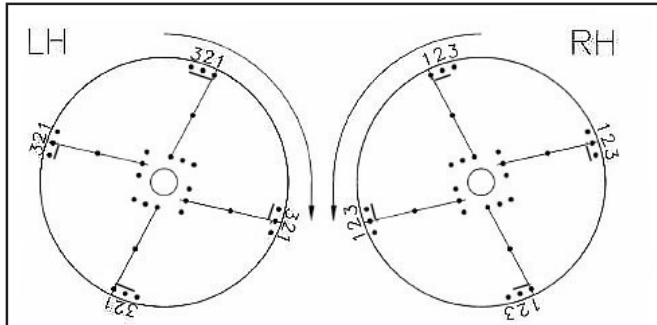

Figure 3a - Fin locations for 30" bottom
- Place fin hole closest to gusset over proper hole on outer edge of spinner disc per Figures 3a or 3b as applicable.
- Figure 3a - 30" wide bottom: Two opposing fins in position 1 and two opposing fins in position 2.